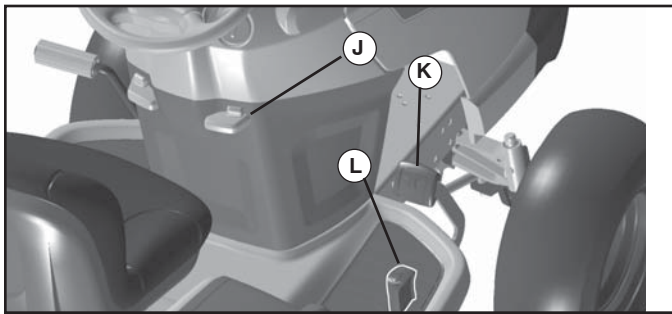

FIG. 6
## TO MOVE FORWARD AND BACKWARD (See Fig. 6)
- Slowly depress forward (K) or reverse (L) drive pedal to begin movement. Ground speed increases the further down the pedal is depressed.
## TO USE CRUISE CONTROL (J) (See Fig. 6)